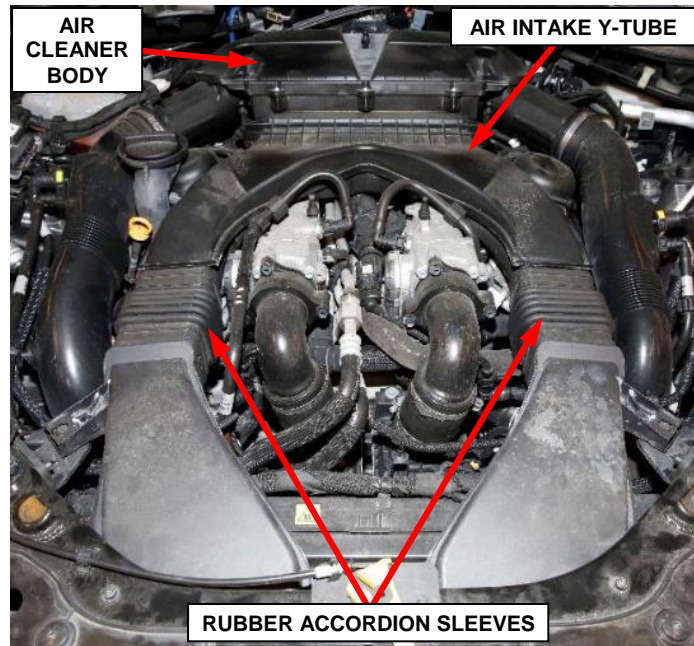

Figure 12 – Air Intake Y-Tube
31. Disengage the retaining pins securing the air intake Y-tube then remove the air intake Y-tube from the air cleaner box and release it from the air intake rubber accordion sleeves (Figure 12).
22. Install the air intake Y-tube to the air cleaner body and the air intake rubber accordion sleeves. Engage the retaining pins to secure the air intake Y-tube to the engine (Figure 12).